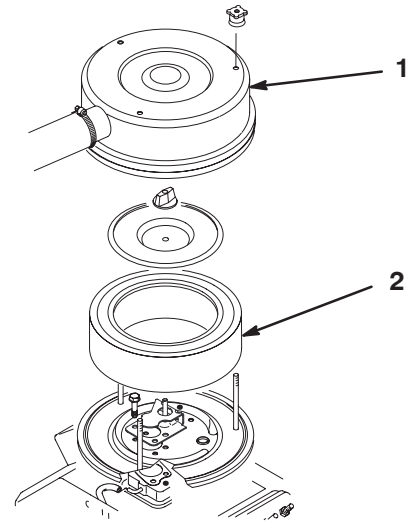

Figure 15
3. Remove the knobs and air cleaner cover (Fig. 15).